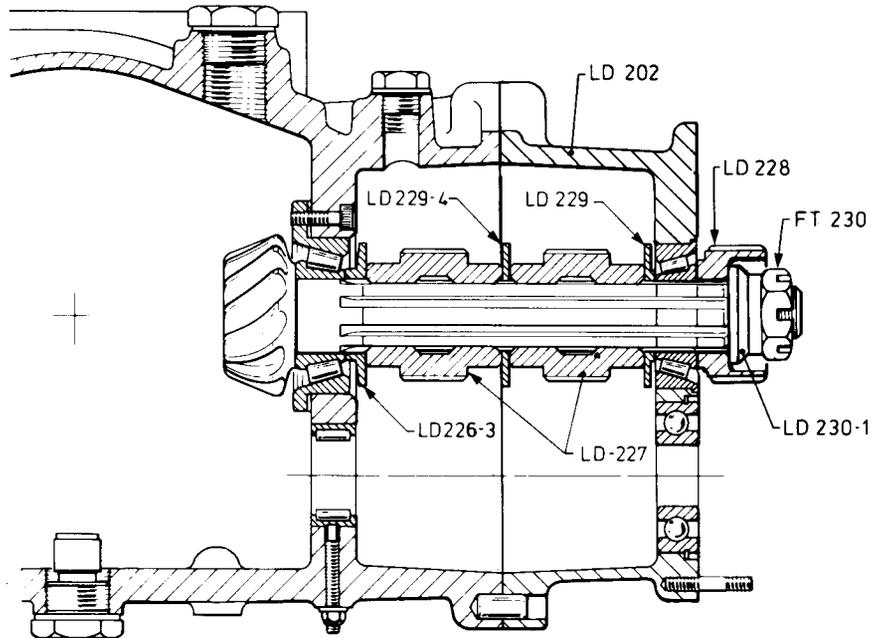
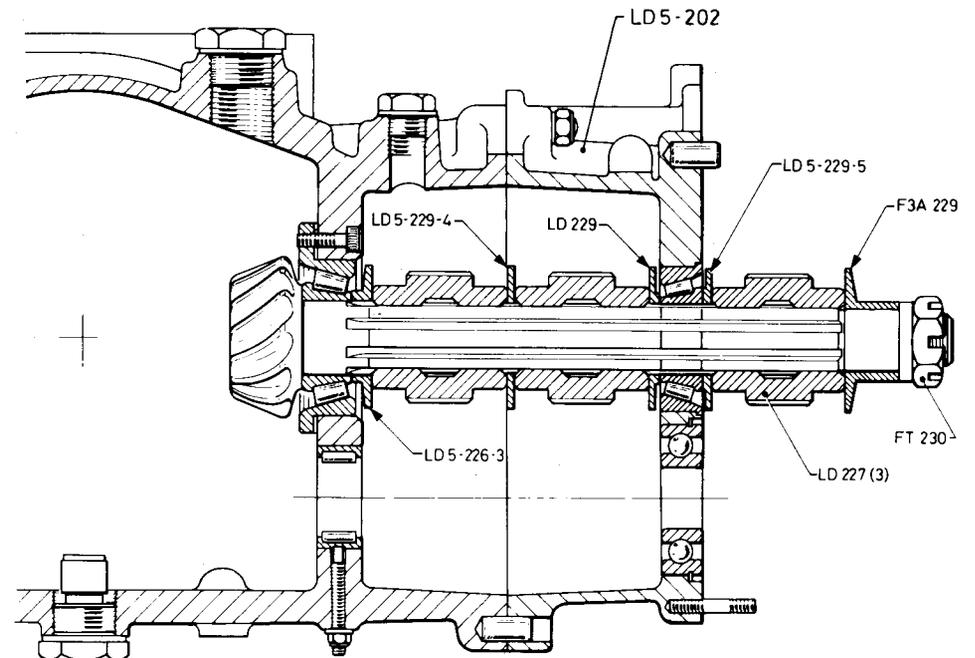

Fig. 6
Fig. 7
a) Assemble pinion shaft into the bearings with the hubs and spacers as shown in Fig. 6 (4 speed) or Fig. 7 (5 speed).